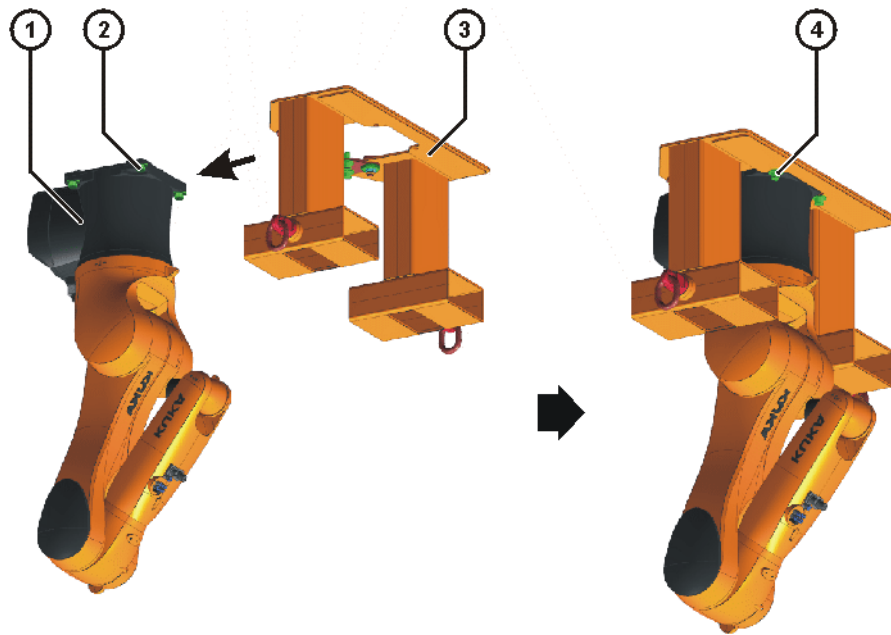

Fig. 11-7: Fastening the Load Lifting Attachment to the robot
11. Carefully push the Load Lifting Attachment onto the base frame of the robot from the front (>>> Fig. 11-7).